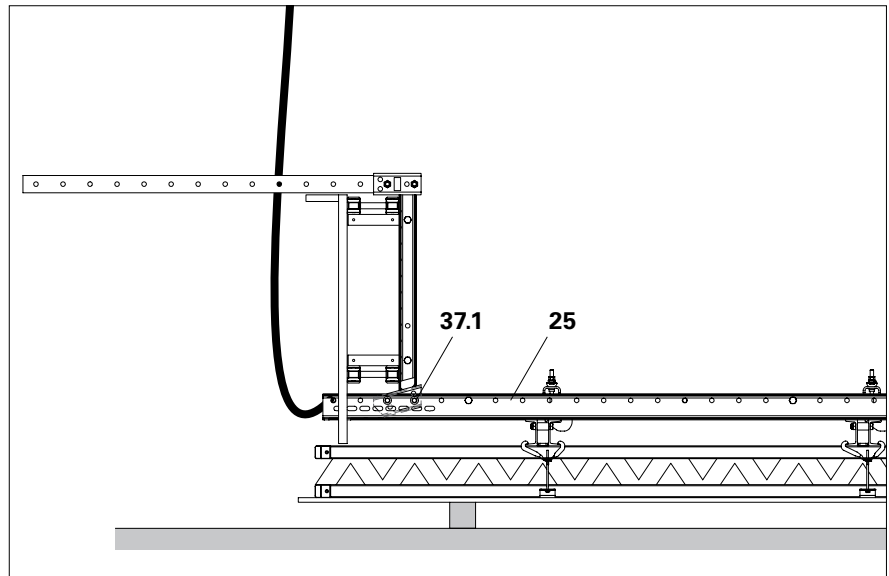

Fig. C1.11
6. Mount the pre-assembled platform to the Strongback (25) using the provided 2x fitting pins $\varnothing 21 \times 120$ (37.1), washers and cotter pins 5/1.
7. Attach the Strongback to the crane lifting gear and turn the formwork. (Fig. C1.11)